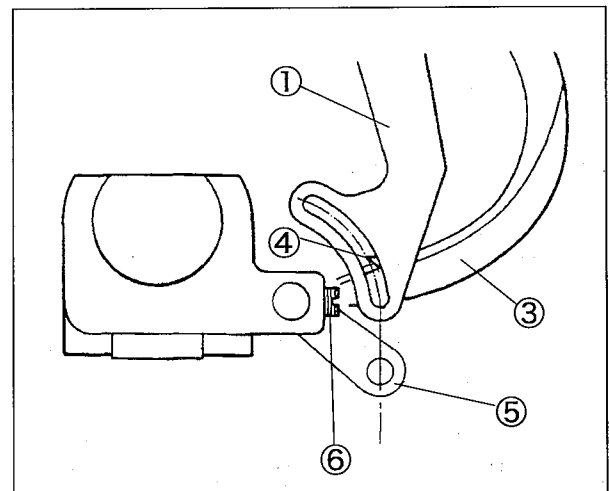

Fig. 6-13
- (1) Loosen the screw ⑥ of the top cover thread eyelet ⑤. (Fig. 6-13)
- (3) Set the eye of the top cover thread eyelet ⑤ along the extending line from the slot of the top cover thread guide ①. (Fig. 6-13)
- (4) Tighten the screw ⑥ securely. (Fig. 6-13)